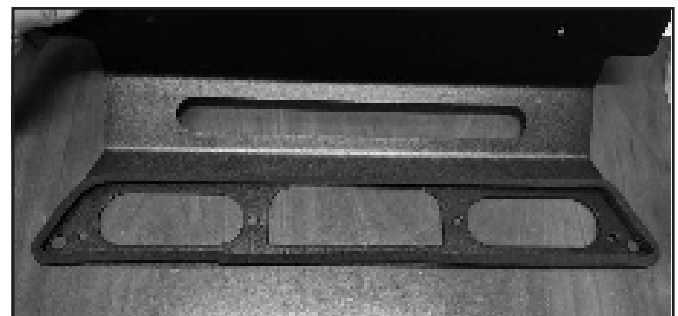

Figure 3: Gasket installation.
- 5** Install the gasket onto the side of the bracket that will be facing into the truck. This can be seen in **Figure 3**. (Holding the light up to the bracket will give a good indication of where the gasket should be applied.)